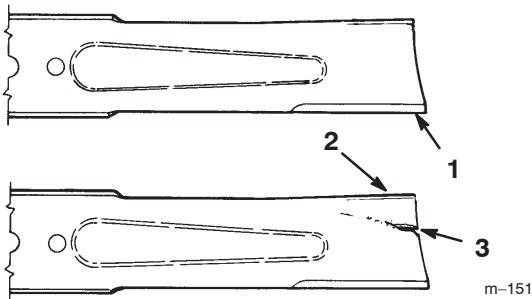

Figure 22
1. Inspect the cutting edges (Fig 22). If the edges are not sharp or have nicks, remove and sharpen the blades. Refer to Sharpening the Blades, page 27.
2. Inspect the blades, especially the curved area (Fig. 22). If you notice any damage, wear, or a slot forming in this area (item 3 in Fig. 22), immediately install a new blade.